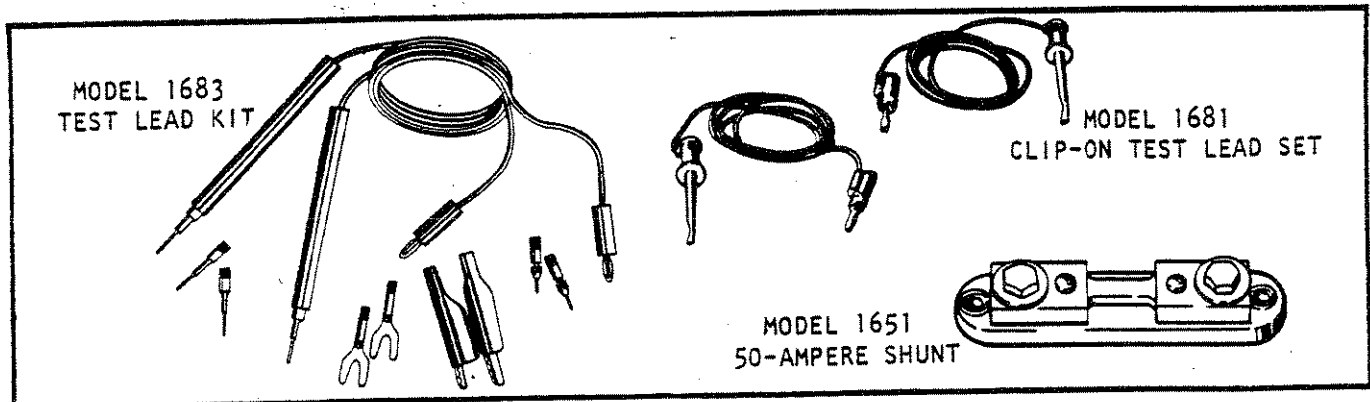

FIGURE 2-5. Accessories.
b. **Model 1651 50-Ampere Shunt.** The Model 1651 50-Ampere Shunt (shown in Figure 2-5) permits current measurements from 0-50A dc and from 20-50A ac. The shunt has a resistance of 0.001 ohm ±1%, so that a 50-ampere current will correspond to a reading of 50 millivolt (0.0500 volt). Set the DMM to ACV or DCV and select the required range. To use the shunt connect the leads furnished with the shunt from the shunt screw terminals to the DMM input terminals. Use separate leads (not furnished) to connect the source to the hex head bolts. Be sure to use leads with a capacity of 30 amperes, or as needed.
c. **Model 1681 Clip-On Test Lead Set.** This set (shown in Figure 2-5) contains two leads with banana plugs at one end and spring-action clip-on probes at the other end. Plug the leads into the DMM and attach the probes to the source.
d. Model 1683 Universal Test Lead Kit. This kit (shown in Figure 2-5) contains two test leads, 14 tips, two probes, four banana plugs, two spade lugs, and two phone tips to permit connection of the DMM to virtually any source within its range.